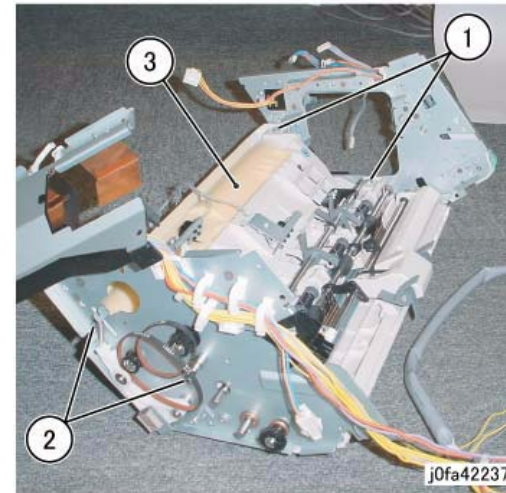

Figure 6 Removing the Entrance Lower Chute Assembly
- 11. Remove the Entrance Lower Chute Assembly (Figure 6):